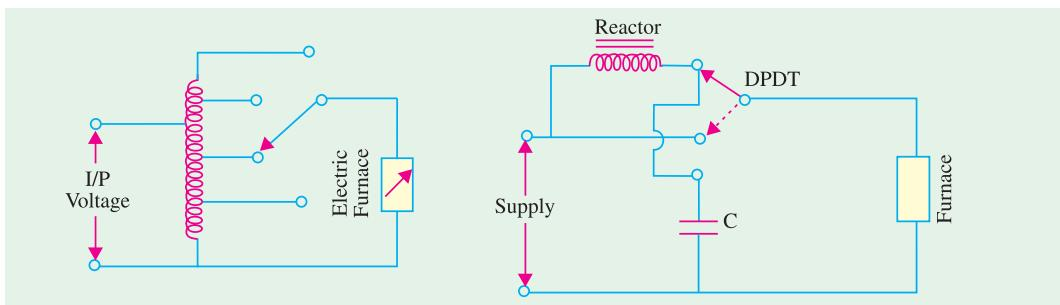

Fig. 47.8
**(c) Autotransformer Control.** Fig. 47.8 shows the use of tapped autotransformer used for decreasing the furnace voltage and, hence, temperature of small electric furnaces. The required voltage can be selected with the help of a voltage selector.